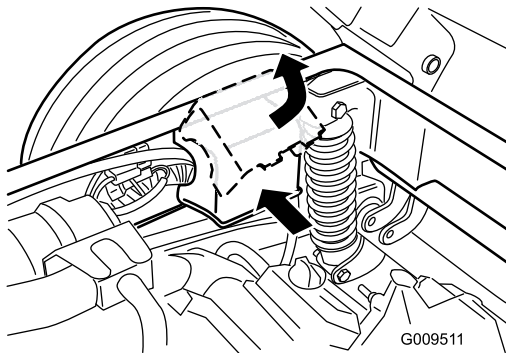

Figure 3
2. Press in on the cover to release the tabs in the mount plate. Lift the cover upwards carefully and remove the cover (Figure 3). Do not discard.